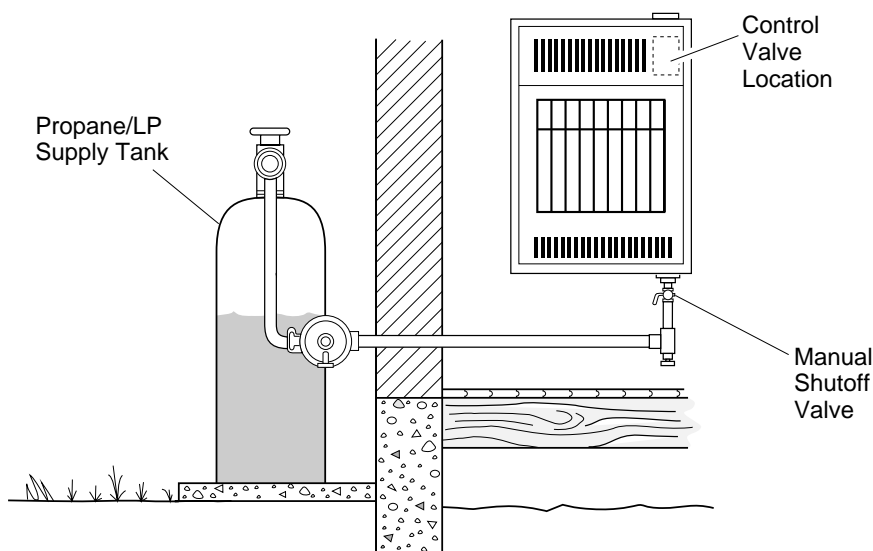

Figure 15 - Checking Gas Joints
3. Check all joints from propane/LP supply tank to manual shutoff valve (see Figure 15). Apply mixture of liquid
valve to control valve (see Figure 15). Apply mixture of liquid soap and water to gas joints. Bubbles forming show a leak.